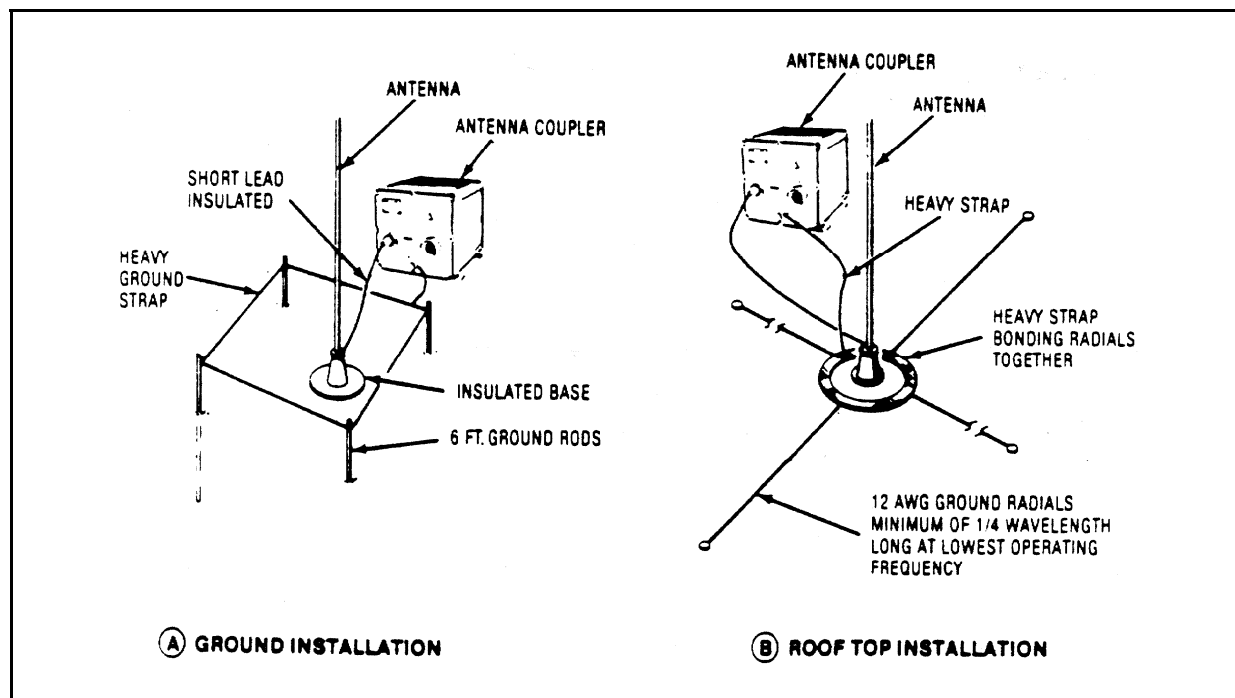

Figure 2.6 Whip Antenna.
- c) When using whip antennas, the ground system actually forms part of the radiating system. Where space permits (such as in a base station installation) a good ground plane or radial system should be installed at the base of the antenna. (See Figure 2.6)
Whips and longwires are popular non-resonant antennas. The whip antenna (illustrated in Figure 2.6), is often used in mobile, marine, portable or semi-portable installations because it is rugged and self-supporting. The antenna impedance is strongly dependent on the operating frequency, and an antenna coupler, therefore, must be used to match the antenna to the Transceiver/Exciter. Best radiation efficiency will be obtained if the antenna is at least  $1/8$  wavelength long at the lowest operating frequency; however, this requirement does not result in a practical size antenna for low frequency operation. Thirty-five foot whip antennas offer a good compromise between practical height and good electrical performance at low frequencies. The antenna coupler is designed to efficiently match whip antennas of 15 foot length or greater. An efficient match may also be obtained for a 9 foot whip above 4 MHz. The whip's performance is greatly influenced by its ground system. For temporary base station installations, a minimum of four six-foot long ground rods should be driven into the ground symmetrically placed around the antenna base. The rods should be bonded together with heavy strap and then connected to the antenna coupler ground by another short heavy strap. If the antenna is mounted on the roof of a building where a short ground lead to coupler cannot be obtained, a minimum of four symmetrically placed ground radials should be installed at the base of the antenna, bonded together, and connected to the antenna coupler ground post. The radials should be made of number 12 gauge wire or larger and should be at least  $1/4$  wave long at the lowest operating frequency. (Radial length in feet =  $246/\text{frequency in MHz}$ .) The whip's radiation pattern is omni-directional in the azimuthal plane.